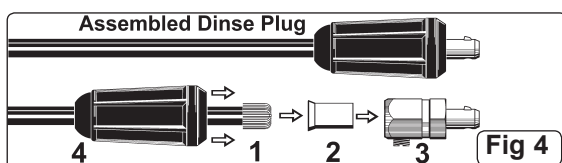
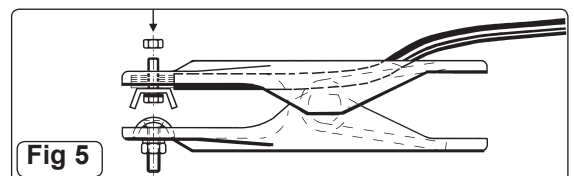

Fig 4
Fig 5
**4.2 WELDING CABLE CONNECTIONS.** The torch cable is supplied ready assembled but it may be necessary for you to assemble the work clamp cable. Attach the work clamp to one end of the cable as shown in fig.5. To connect the Dinse Plug as shown in fig.4 first thread the cable through the outer cover of the plug (see fig.4 - 4). Now remove 20mm of insulation sheath from the end of the cable and fold back the copper wire all around the outside of the sheath (1). Push the cable end into the copper sleeve (2) so that the folded back wire makes good contact with the inside of the sleeve. Push the copper sleeve into the brass plug body (3) and tighten the large grub screw until the cable is firmly held. Now slide the outer plug cover up the cable and press the brass body into it as shown in fig.4.